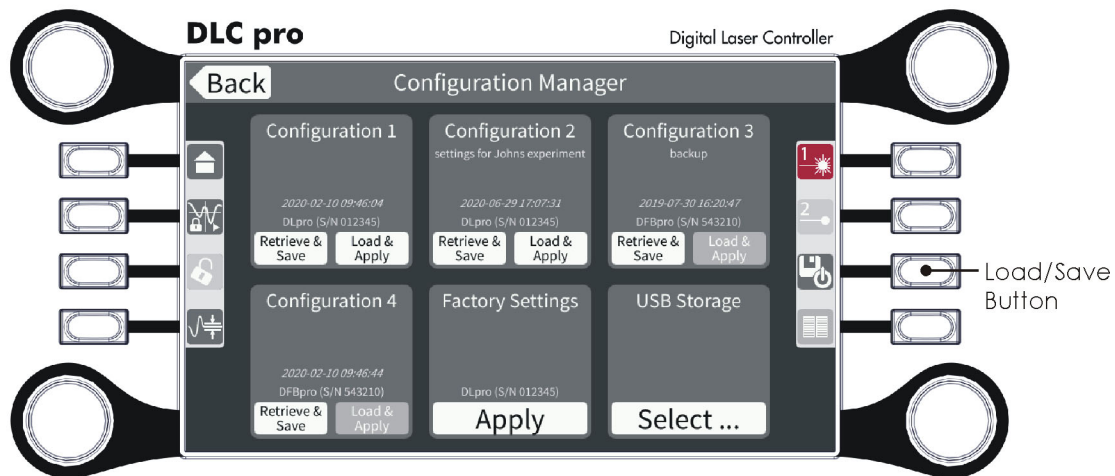

Figure 52 Configuration Manager
- Press the **Load/Save** button twice or tap the corresponding symbol twice to quickly store the most important settings of the parameter menu (please refer to section 5.12) to the flash memory of the DLC pro. Storing the settings is possible on any screen. Tap Back on the Configuration Manager screen (see Figure 52) to return to the previous screen. The stored parameters are immediately active and also loaded upon the next restart of the DLC pro.